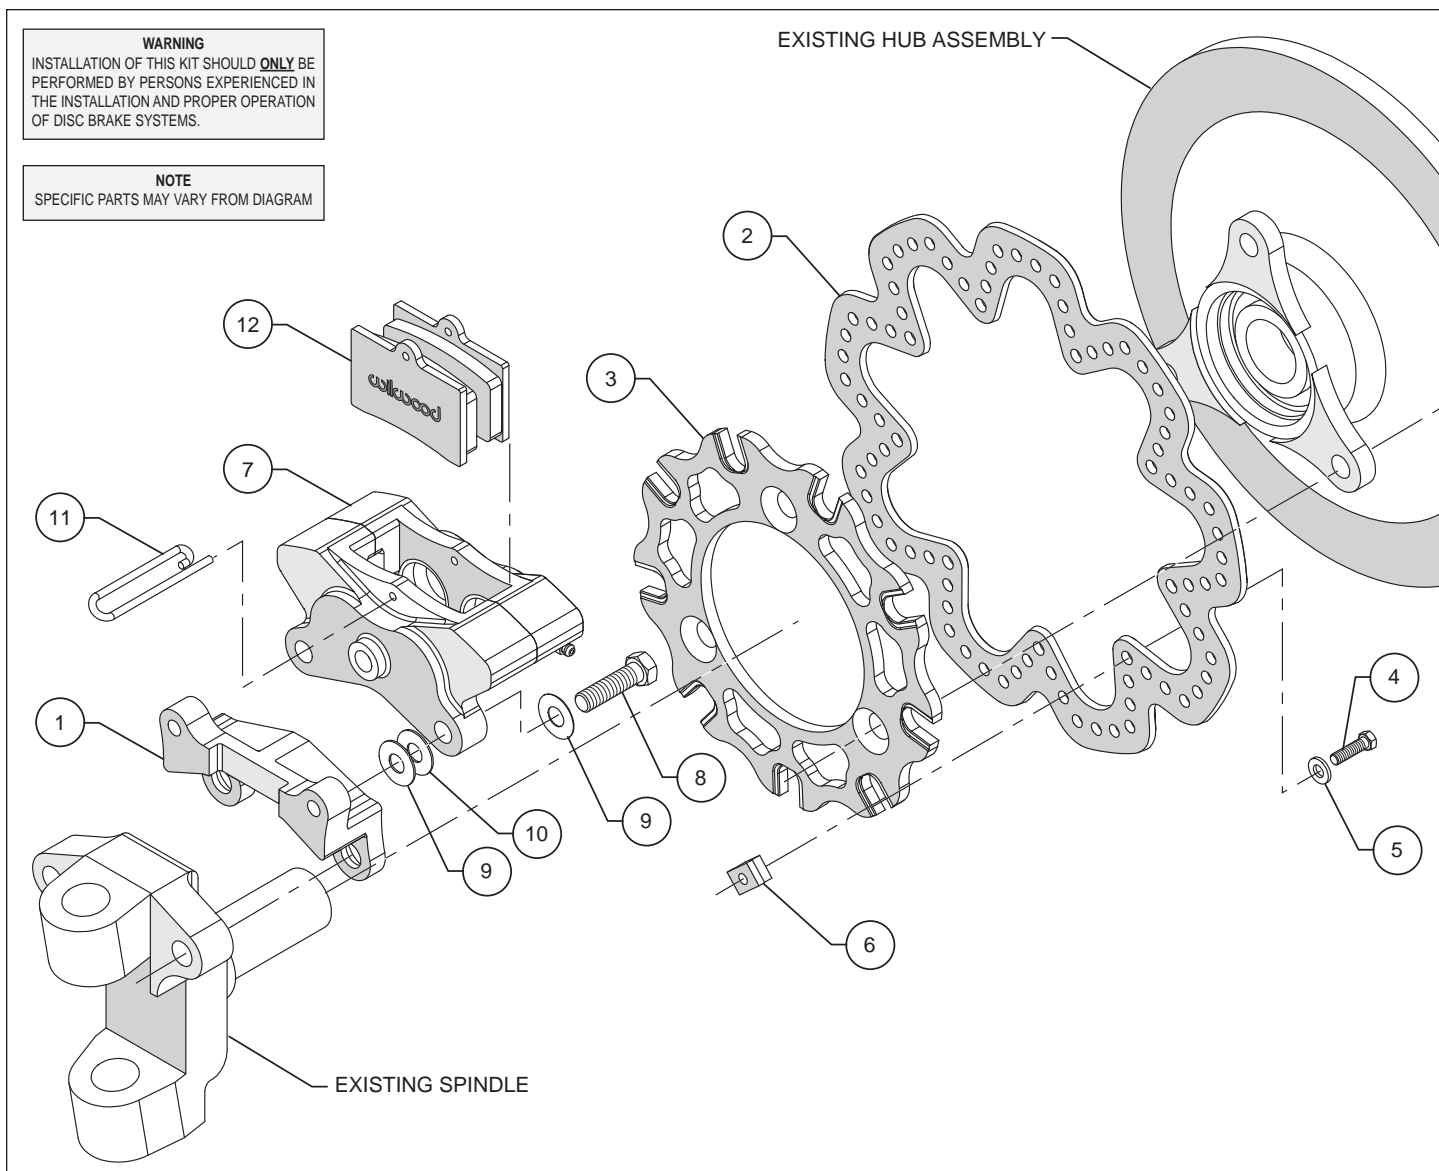

Figure 1. Typical Installation Configuration
• The caliper mounting bracket assembly (1) should be installed first with clean, dry threads on the mounting bolts. Install the bracket on the outboard side of the spindle by sliding customer furnished bolt and washer through the mounting holes and into the backside of the spindle (see Figure 1). The bracket must tighten squarely against the side of the spindle body. Inspect for interference from casting irregularities, machining ridges, burrs, etc.
• Mount the rotor adapter (3) with the notched t-nut slots facing inboard to the rotor (2) using bolts (4), and washer (5) slid through rotor holes from the outboard side and into the t-nut (6). Apply red *Loctite*[®] 271 to the bolt threads and torque bolts (4) to 120 **in-lb**.
• Slide the rotor/adapter assembly onto the hub assembly and secure using customer supplied hardware by sliding the bolt thru the ears on the hub assembly from the outboard side and screw into the adapter (3).
• Install the caliper (7) on the outboard side of the bracket (1) by sliding bolt (8) thru washer (9) and into the caliper mounting bracket (1). Initially place one shim each (9 and 10) between the caliper (7) and caliper bracket (1). The caliper bleed screws should be horizontal to the bracket (1). Snug the bolts (8) and check that the rotor (2) is centered in the caliper (7). Add or subtract .035" shims (9) and/or .016" shims (10) as necessary between the caliper mounting bracket (1) and the spindle to center the caliper (7) on the rotor (2).
• Remove the pad pin retainer (11) from the caliper (7). Slide the brake pads (12) into place. They should install easily without interference. Reinstall the pad pin retainer (11).